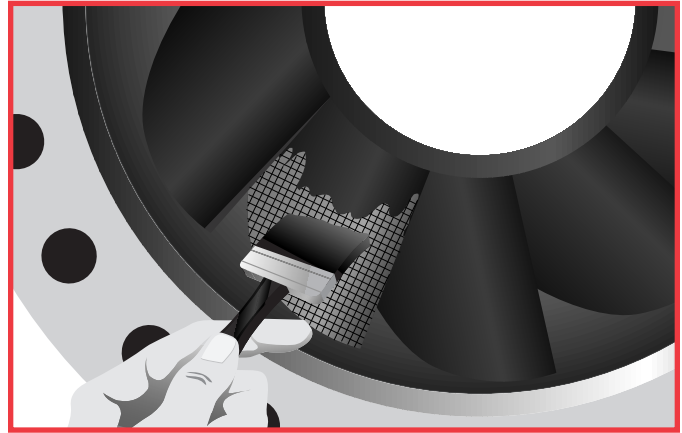

Figure 44. Two coats of Brushable Ceramic seal the metal and provide a low friction surface.
4. **To finish the repair**, brush apply a 15-20 mil coating of Brushable Ceramic to entire impeller area, filling in porous spots in the casting. Once the first coat has cured, apply a second coat of Brushable Ceramic. (See figure 44)